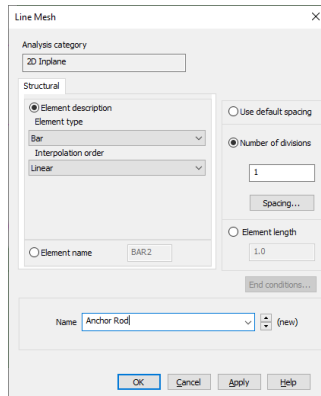

Figure 23: Anchor Rod mesh
**Note.** A single two noded bar element is used to model the anchor rod: it is not possible to use three-noded bars or more than one bar element without forming a mechanism. 1m long three-noded bars are used for the grout. The mesh details are shown in figures 23 and 24.